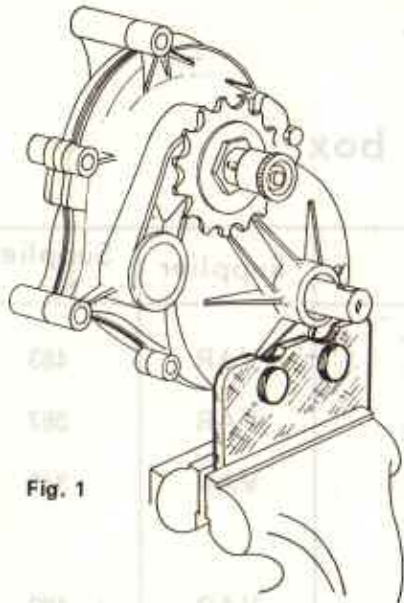

Fig. 1
- Secure the Relay Box to the vice by means of tool $\frac{MB - 1495}{VAR - 483}$ Fig. 1